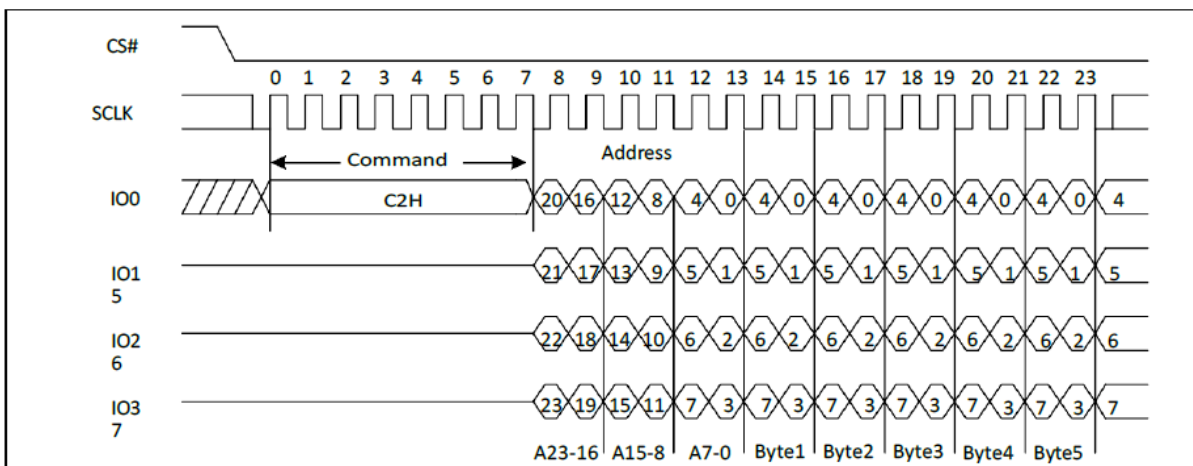

Figure 28a. Extend Quad Page Program Sequence Diagram (SPI)
The Extend Quad Page Program with 4-Byte Address instruction(3EH) is similar to the Extend Quad Page Program instruction(C2h) except that it requires 32-bit address instead of 24-bit address. The Extend Quad Page Program with 4-Byte Address can improve performance for PROM Programmer and applications that have slow clock speeds <5MHz. Systems with faster clock speed will not realize much benefit for the Quad Page Program with 4-Byte Address instruction since the inherent page program time is much greater than the time it take to clock-in the data. To use Quad Page Program with 4-Byte Address the Quad Enable (QE) bit must be set to 1. The Quad Page Program with 4-Byte Address instruction sequence is shown in Figure 28a&28b.